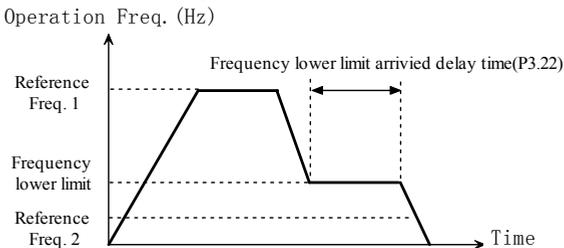

Fig. 5-2-4 Zero-speed running
- ◆ If setting is 1, when reference frequency is lower than frequency lower limit, the ac drive will run at frequency lower limit first and last the delay time set by P3.22, then run at zero-speed. As shown in Fig.5-2-4.